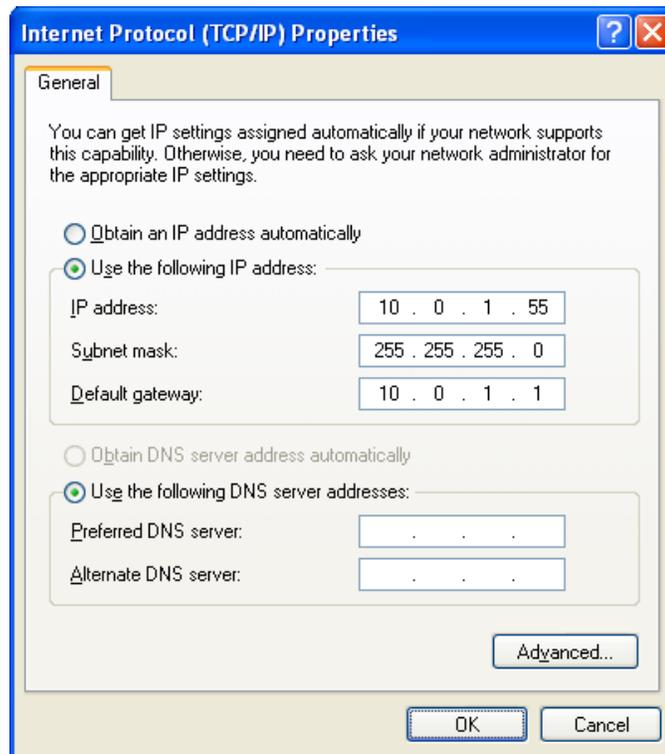

Figure A-1. Internet Protocol (TCP/IP) Properties Screen
3. Verify that your PC's network adapter is set to a static IP address such as 10.0.1.55 (10.0.1.x). Open the Control Panel → Network Connections on your computer. Right click on the network adapter being used and select *Properties*. In the center of the *Local Area Connection Properties* dialog box, scroll down and double-click on *Internet Protocol (TCP/IP)*. Record your existing settings and then set the following parameters shown in Figure A-1.